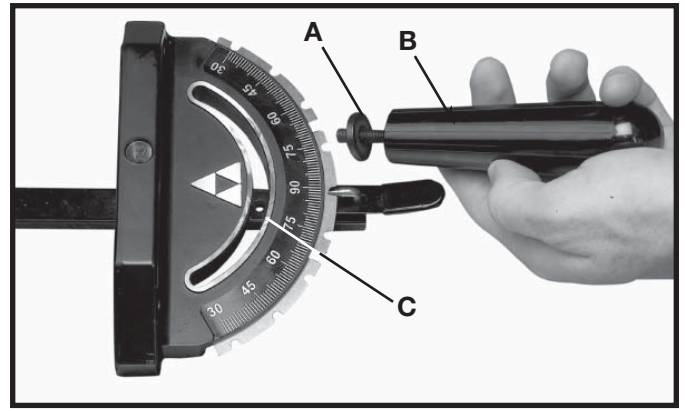

Fig. 62
Place a flat washer (A) Fig. 62 on the threads of the miter gauge lock handle (B) and then thread the handle into the hole (C) in miter gauge bar.